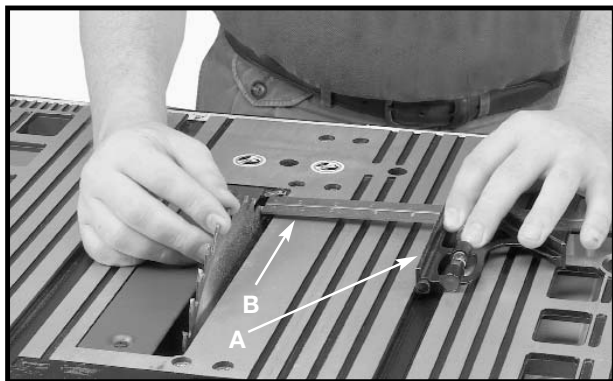
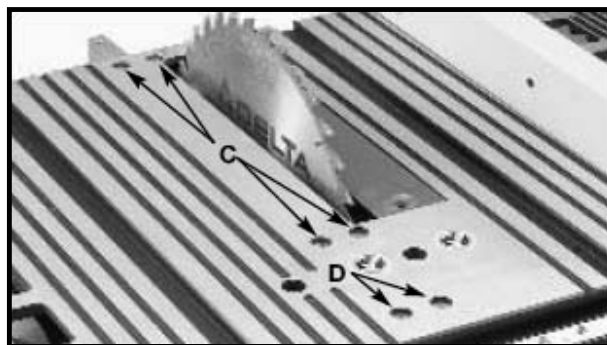

Fig. 38
Fig. 40
3. Use a combination square (A) Fig. 38 against the miter gauge slot and adjust the blade (B) of the square until it touches the marked tooth.
5. If the front and back measurements (Figs. 38 and 39) are not identical, you can adjust the blade. Start by loosening the nuts below the four screws (C) Fig. 40 on the table. Then loosen the screws (C). Carefully move the saw blade until the blade is parallel to the miter gauge slot. When done, tighten four nuts under the table and the four screws (C) Fig. 40 securely.
NOTE: If sufficient adjustment cannot be achieved by loosening the screws (C) Fig. 40, loosen the screw (D) Fig. 40 necessary to make the adjustment.